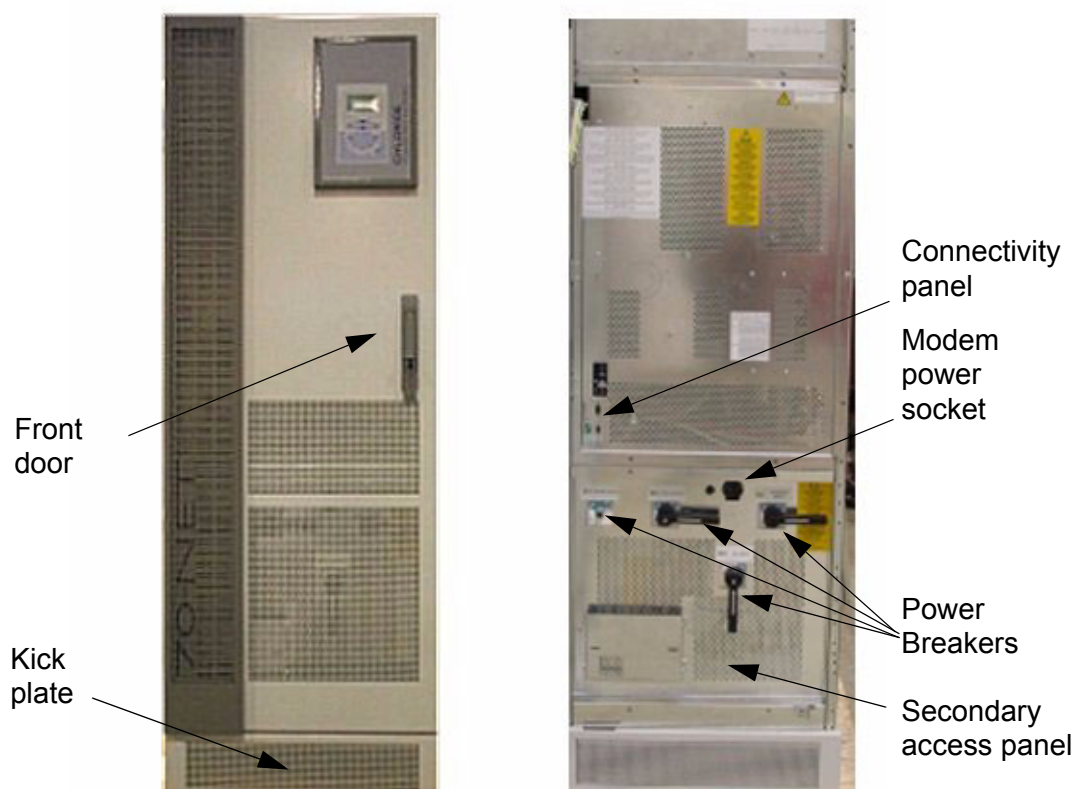

Figure 5 - Front view, with (left) and without panels (right)
The utmost care shall be taken when removing the packaging in order to avoid damaging the equipment. Check all packaging materials to ensure that no items are discarded. Once the packaging has been removed, the UPS shall be taken off the pallet by removing the kick plate (ref. Fig. 5) and the retaining screws, as illustrated in Fig. 1, and lifting it off using a fork lift (max width between forks - 540mm - Ref EN 1757). Note also, that when moving the pallet, the maximum distance between forks is 690mm).
In order to gain access to the external electrical connections it is necessary to open the front door of the UPS and remove the secondary access panel (see Fig. 5). Connect the earth cable (PE) first at  $\oplus$ .
All of which are located on the Connectivity Panel (see Fig. 5 on page 17).